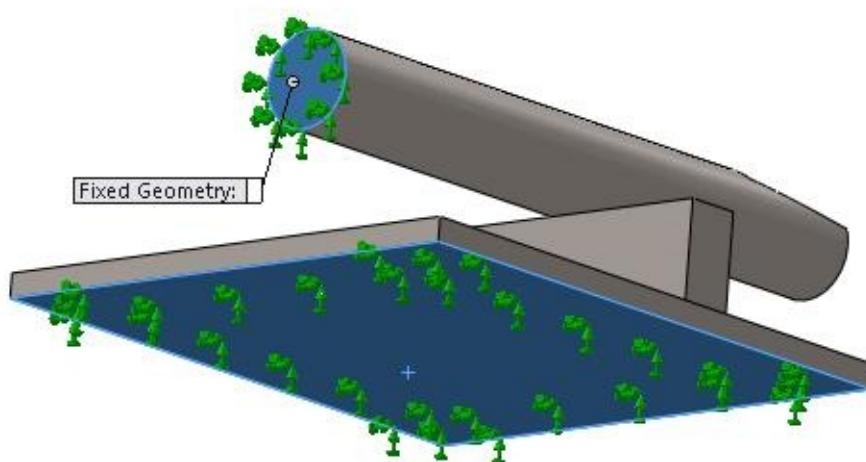

Figure-15. Faces selected for fixing
- Select the faces as shown in Figure-15.